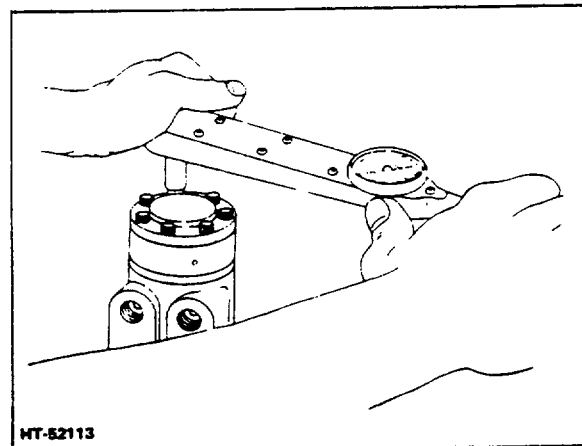

Figure 3-23. Tightening Capscrews
23. Install all 7 capscrews and torque them gradually and evenly to 150 lb-in (Fig 3-23).